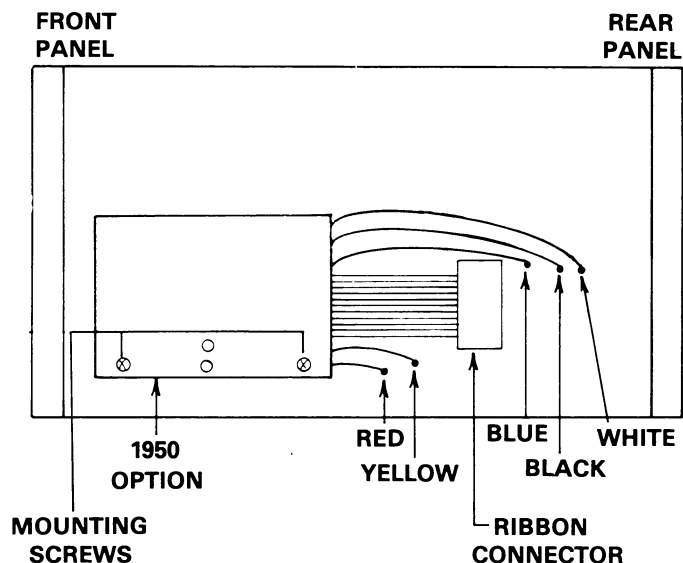

Figure 7-1. Model 1950 Installation
- Position the Model 1950 on top of the shield as shown in Figure 7-1. Line up the holes at the outer edge of the Model 1950 with the holes in the shield.
pin 1 of the connector lines up with pin 1 of the receptacle as shown in Figure 7-1.